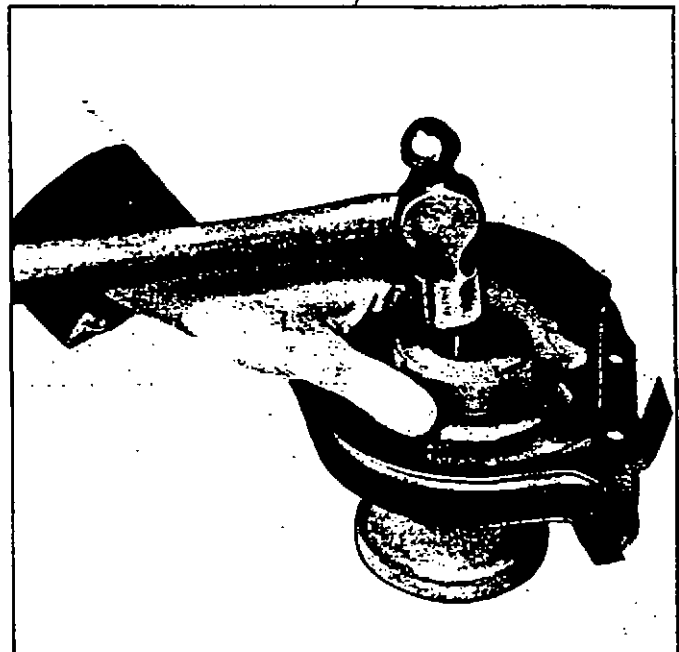

Fig. 13L—Installing Oil Seal (Cover Removed)
2. Install new seal so that open end of the seal is toward the inside of cover and drive it into position with Tool J-995 (fig. 13L).